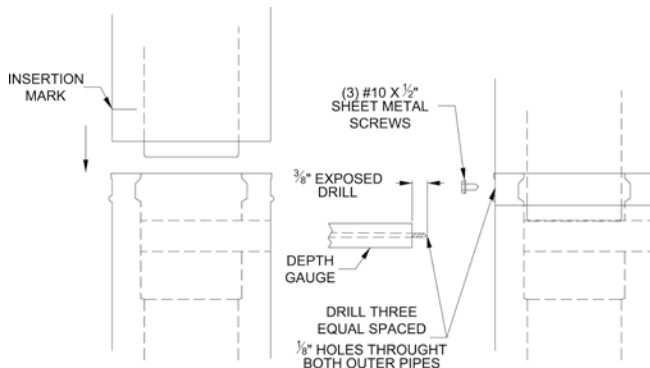
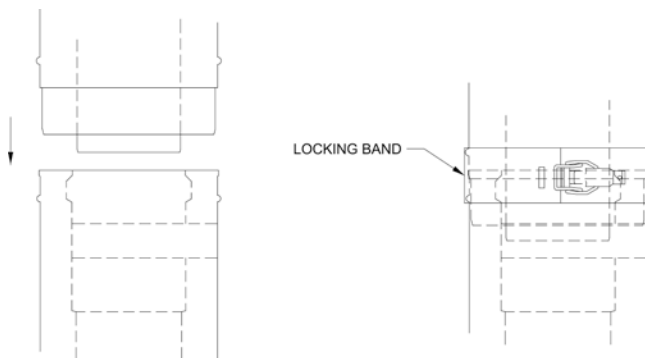

Figure 23: Joining Cuttable Pipe
Figure 24: Joining Non-Cuttable Pipe
3. To join Concentric Vent Pipe refer to Figure 23 "Joining Cuttable Pipe" and Figure 24 "Joining Non-Cuttable Pipe" and follow the procedure below:
- b. Push the male end of the first fitting into the boiler collar until it bottoms out. The male end of cuttable sections should go 1" into the collar until the insertion mark (made in Step 2d above) is covered. On other fittings, the bead on the male pipe will be bottom out on the collar (see Figure 24).
- c. The male end of cuttable fittings must be held to the collar with three (3) #10 x 1/2" sheet metal screws. Drill a 1/8" hole through both outer pipes to start this screw. **Use a drill stop or other means to ensure that the drill bit does not penetrate more than 3/8" into the outer pipe. Do not use a sheet metal screw longer than 1/2"** (see Figure 23).
- d. Use locking bands (provided with all fittings) to secure non-cuttable pipe, as well as fittings, to the boiler collar (see Figure 24).